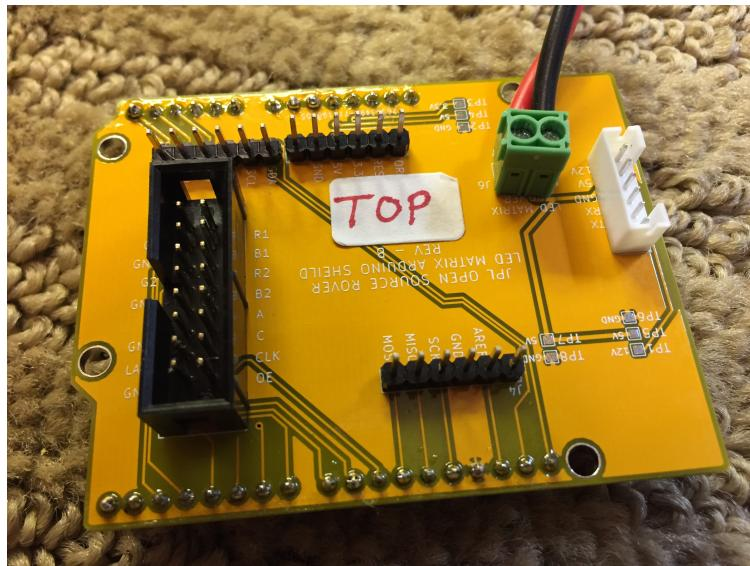

Figure 17: Assembled Arduino Sheild
Now, we will assemble the Arduino shield that will sit in the rover's head and control the face. We will start with the **TOP** side of the Arduino board. The final product is shown in Figure 17.
1. Begin by taking the 2-position terminal block **E18** and soldering it to top of the board at the J6 connector, such that the screw terminals face outwards as shown in Figure 17.
2. Solder the 1x6 JST connector **E14** onto the top of the board at the J5 connector, such that the notch in the connector faces outwards as shown in Figure 17.
3. Solder the 2x8 shrouded header pin connector **E19** to the top of the board at connector J1 such that the notch faces outwards as shown in Figure 17.